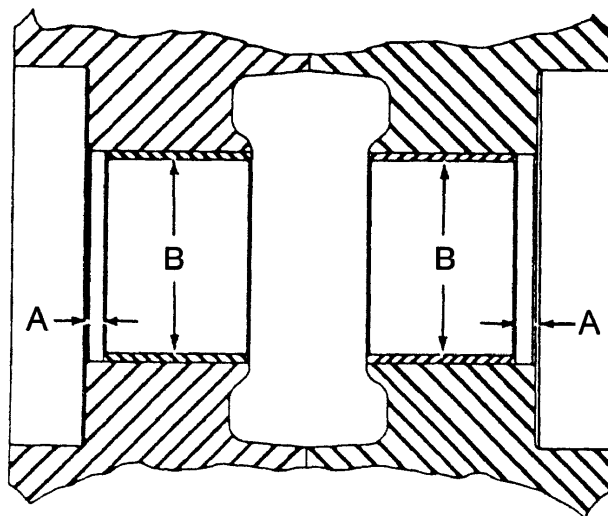

Fig. 14.25. Bushing Installation
1. If replacing bushings, coat 25 [mm] of outer end of roller bore and leading edges of bushing OD with LOCTITE #601. Press bushing in as indicated in Fig. 14.25.